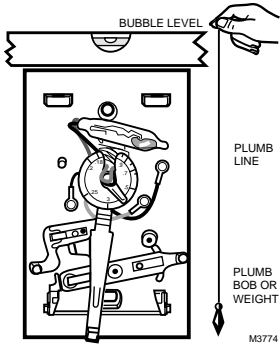

Fig. 5. Level thermostat.
- ❑ Place a bubble level or plumb line against the thermostat to find the level position. See Fig. 5. Start a screw in the center of the bottom mounting hole. (Move the temperature setting lever, if necessary, to uncover the mounting hole.)